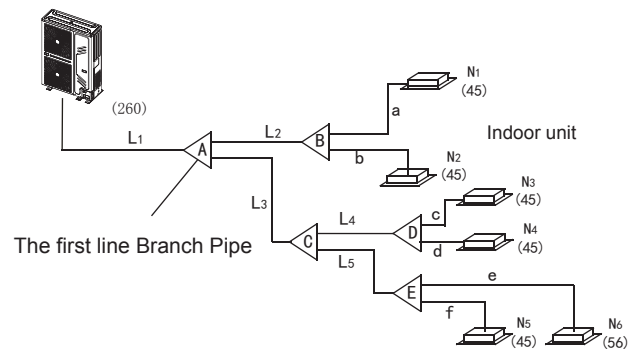

Fig.4-6
- Main pipe (Please refer to Fig.4-6 and Table 4-4)
In Fig.4-6, the main pipe L1, the outdoor unit capacity is 26kW, and check the Fig.4-6 to get the size of gas pipe/liquid pipe is $\Phi 22.2/\Phi 9.5$, and aslo the total equivalent length of liquid side and gas side pipes is $> 90m$, then check the Table 4-4 to get the size of gas pipe/liquid pipe is $\Phi 25.4/\Phi 9.5$, and according to the maximum value principle, it should apply the $\Phi 25.4/\Phi 9.5$.